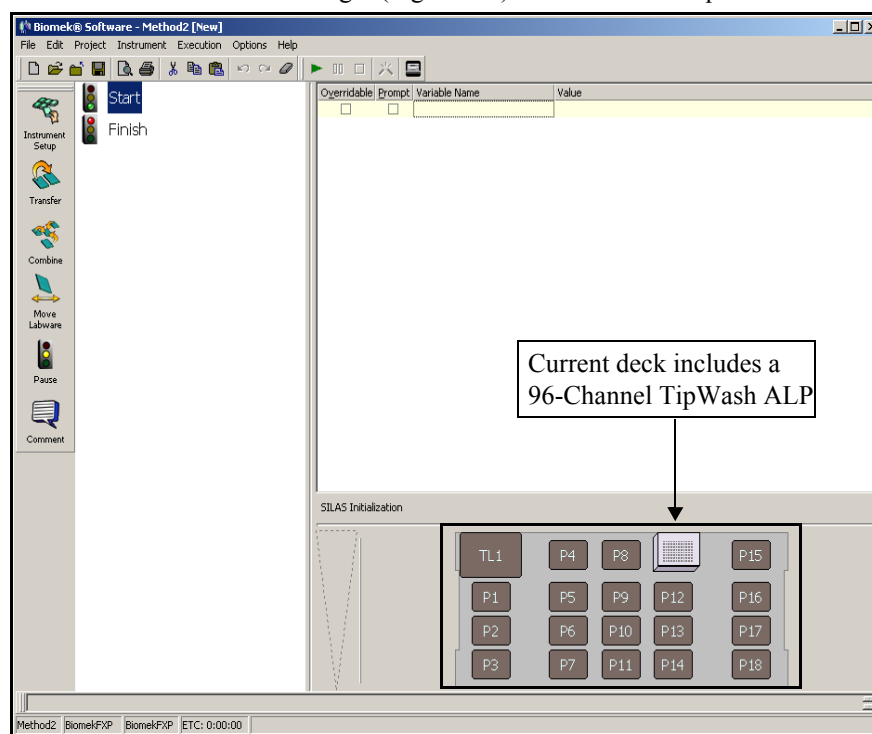

Figure 1-4. Current deck includes a 96-Channel Tip Wash ALP
To avoid hardware crashes, it's important that the deck in Biomek Software matches the physical deck of your instrument. If you wish to run these tutorial methods on hardware rather than in simulation and your deck varies from what is shown, you may have to modify the methods to work with your hardware (Figure 1-4).
- View the current software deck Figure 1-4.
- Ensure a 96-Channel Tip Wash ALP is placed on the position in the back row, the second column from the right (Figure 1-4). See the sidebar tip to add this ALP.
To add a 96-Channel Tip Wash ALP to your deck, choose **Instrument>Deck Editor**. The current deck appears. Then from **All**, highlight **WashStation96** and drag it to the proper position. You may have to delete an ALP from the deck before you add the WashStation96. Then choose **Renumber** to ensure your deck matches the deck on Figure 1-4.